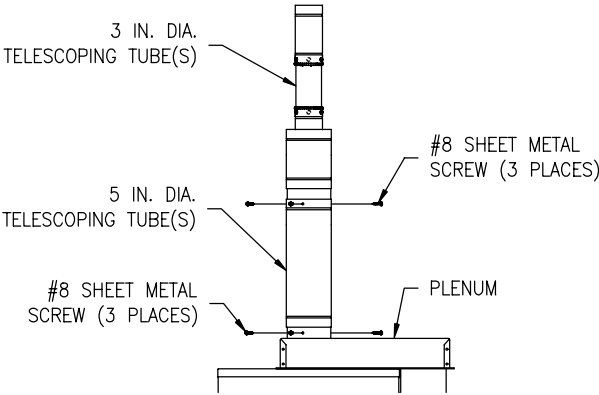

Figure 7b
Join the five (5) inch (12.7 cm) diameter telescopic tubes by inserting the small end of a tube into the large end of another, one (1) inch (2.5 cm) (or *until seated*). Drill three (3) 1/8 inch diameter holes, 120° apart, through each joint where the five (5) inch (12.7 cm) diameter telescopic tubes are joined. At this time, **DO NOT** drill holes where the small and large sections of the five (5) inch (12.7 cm) diameter telescopic tubes overlap. Fasten each joint with three (3) #8 sheet metal screws (supplied). Compress the joined five (5) inch (12.7 cm) diameter telescopic tubes to minimum length. Place the large end of the joined five (5) inch (12.7 cm) diameter telescopic tubes through the hole in the ceiling (if applicable). Place the small end of the joined five (5) inch (12.7 cm) diameter telescopic tubes over the joined three (3) inch (7.6 cm) diameter telescopic tubes and plenum collar until seated on top of the plenum box. Drill three (3) 1/8 inch diameter holes, 120° apart, through the joined five (5) inch (12.7 cm) diameter telescopic tubes into the plenum collar. Fasten with three (3) #8 sheet metal screws (supplied). (See Figure 7b).